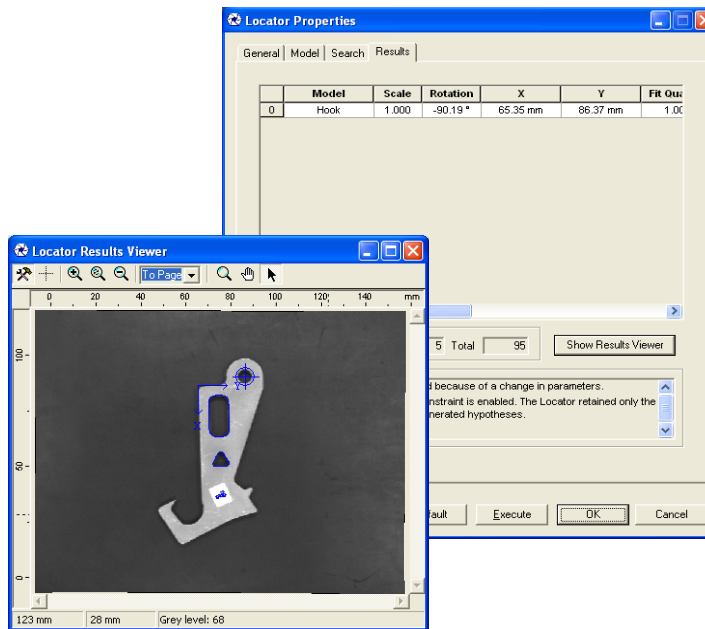

Figure 60 Results Viewer and Results Panel of the Locator Tool
4. Click **Show Results Viewer** to view the located instance superimposed on the Image, as shown in Figure 60.